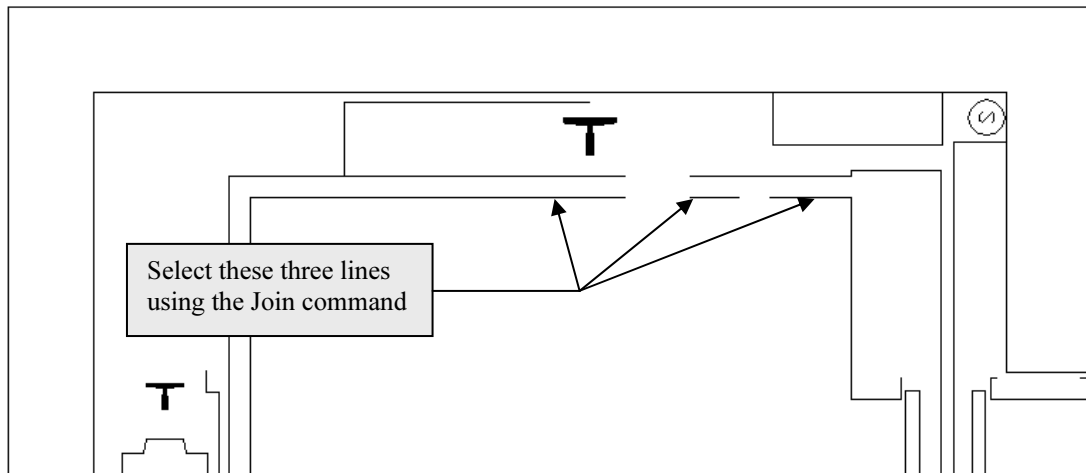

Figure 3-3.7 Elevator shaft drawing
15. Select the **three** lines identified in **Figure 3-3.7** and then press **Enter**.